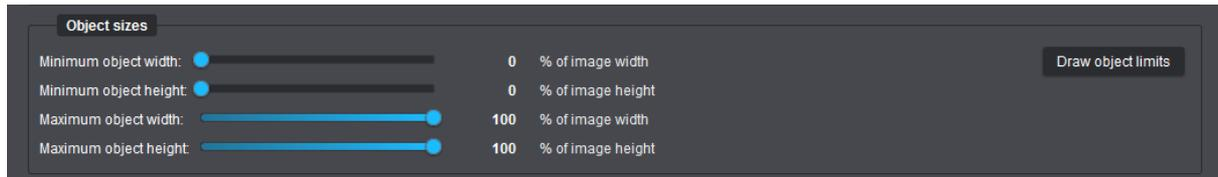

Fig. 15-6
- ▶ Click the **Draw object limits** button (Fig. 15-6) to define the minimum required and the maximum valid object dimensions with your mouse in the displayed preview image.